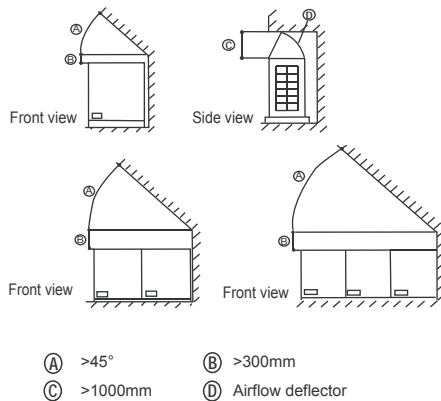

Fig. 4-17
- In case any obstacles exist above the outdoor unit, refer to Fig.4-17.